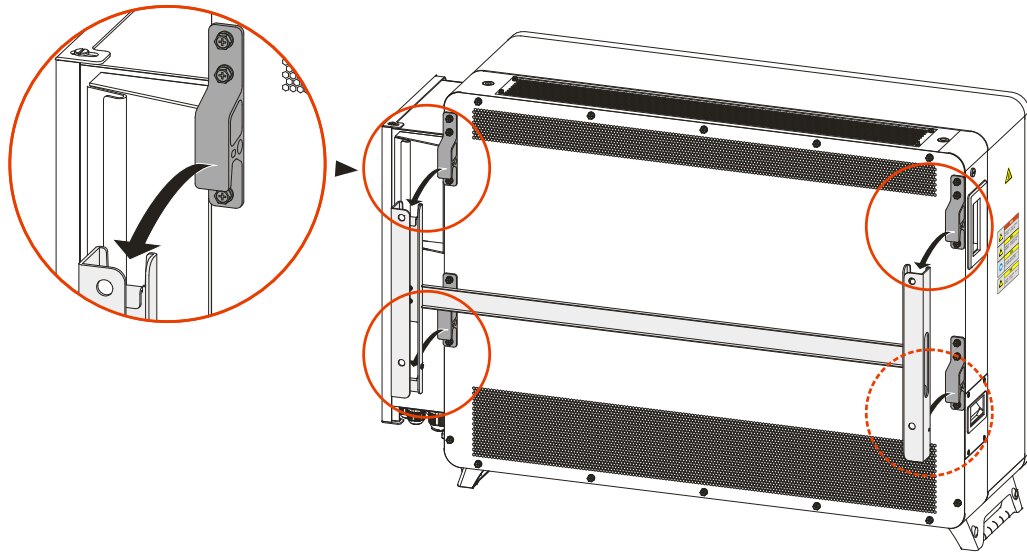

Figure3-16 Hang the inverter on the wall bracket
- Step 5 Lift the inverter to the wall mount, make sure that the mounting ears and the groove of the wall mount fit well, and then slowly hang the inverter to the wall mount, as shown in Figure3-16.